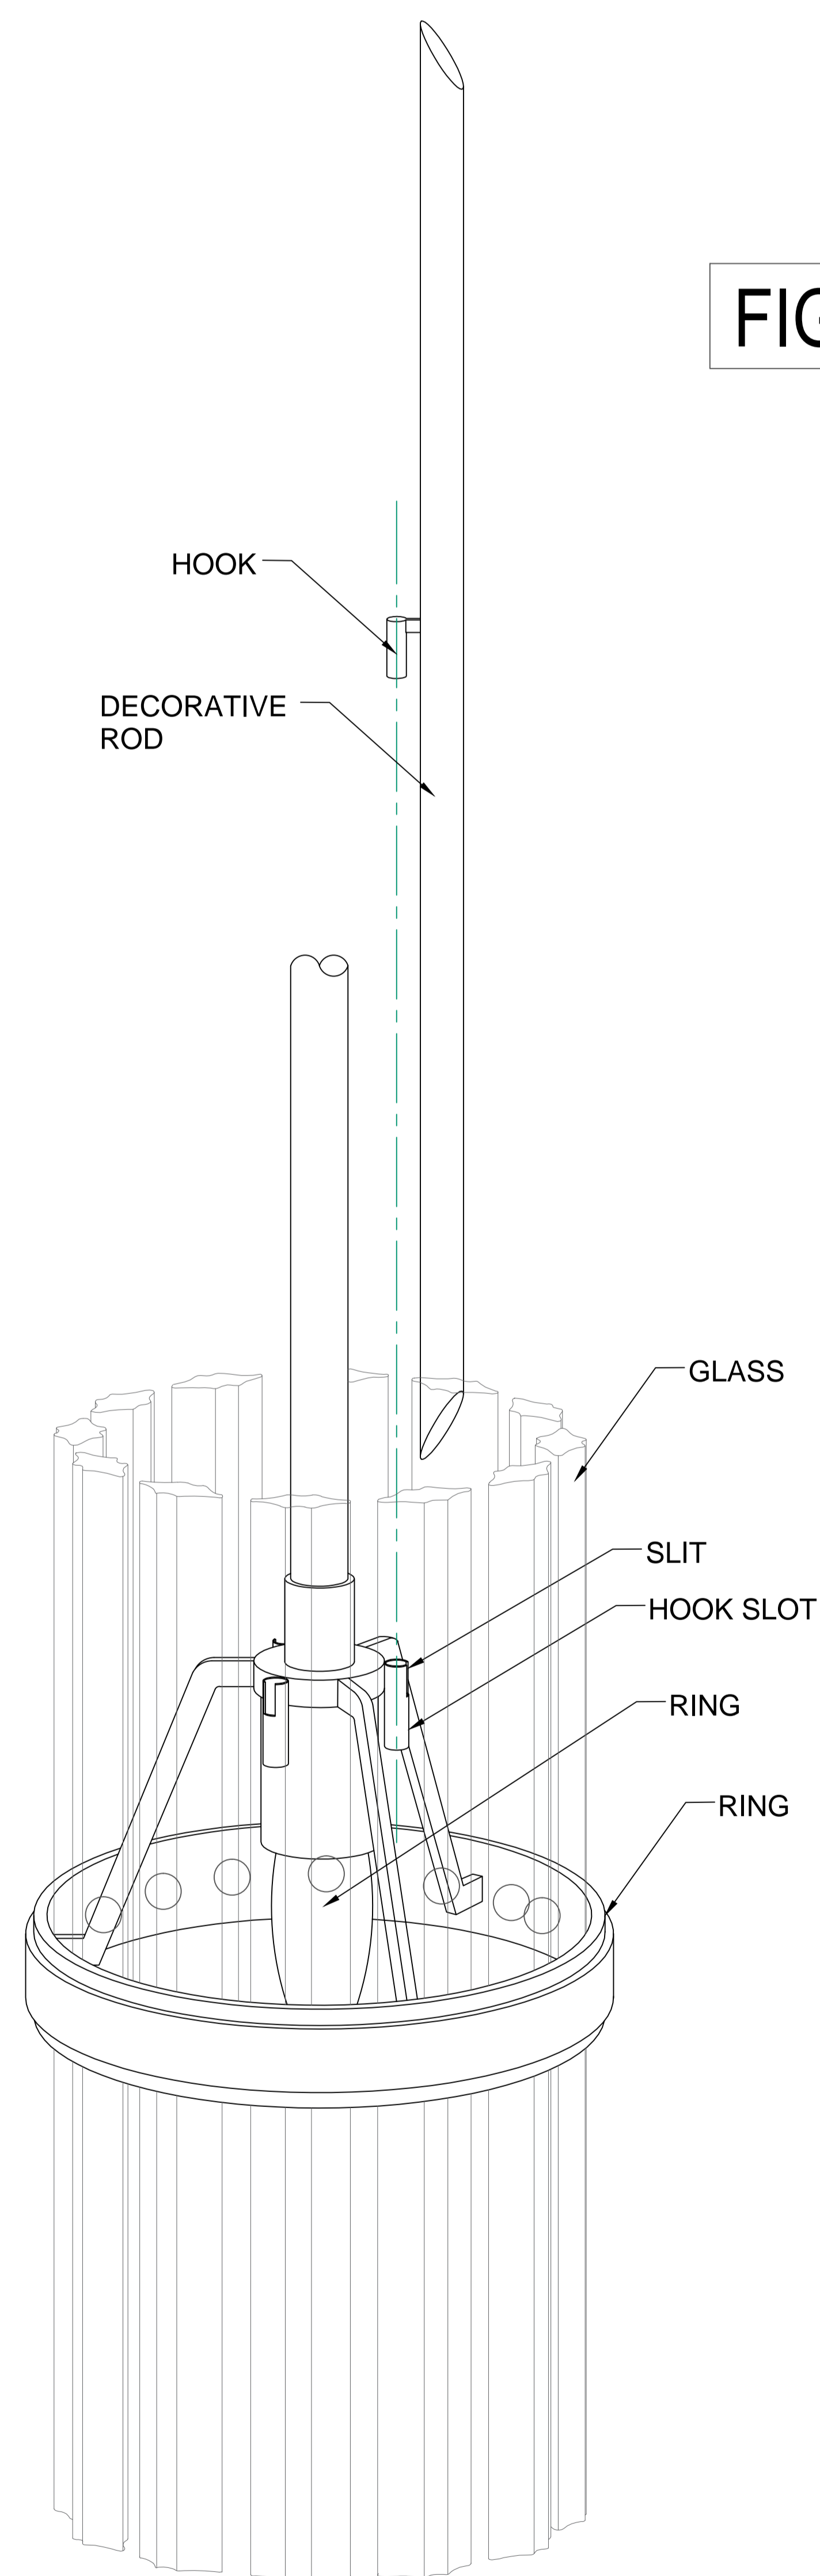

FIGURE-06
11. Hang the decorative rods with hooks on the hook slots besides the socket cover. Slide down the rods from the top to the slots provided. Make sure that the hook fits to the slit on the hook slot. (See Figure -06)